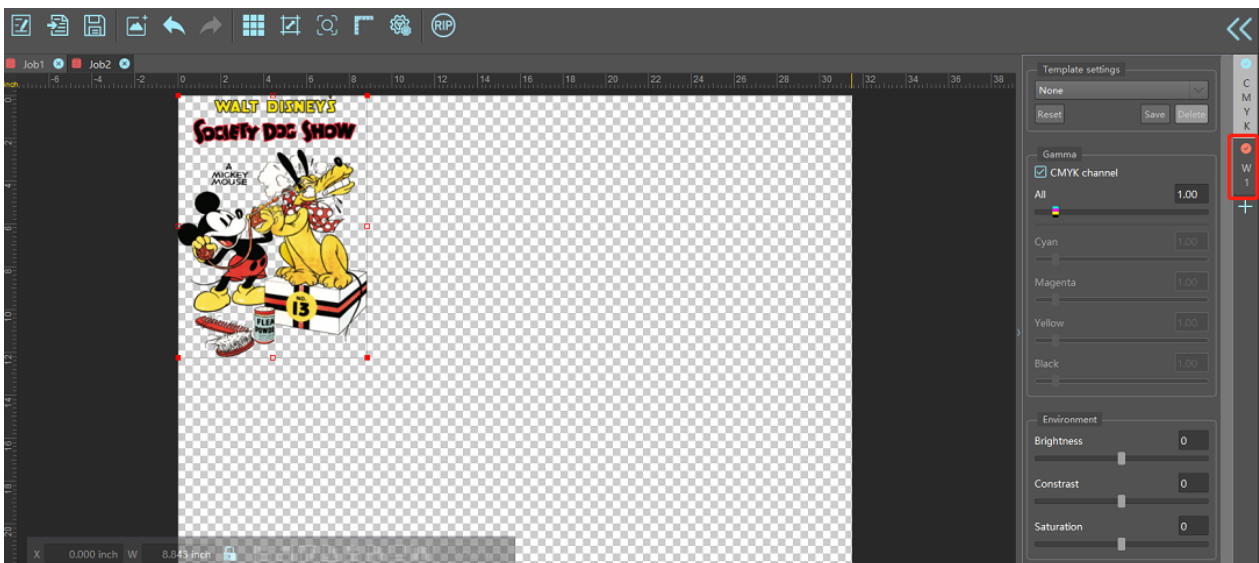

Figure 2.9
(2) Spot channel: After loading the picture, the system will open a W1 or W1W2 channel by default according to the user setting. If the picture comes with a Spot color, it will be labeled in red button, as shown in Figure 2.9